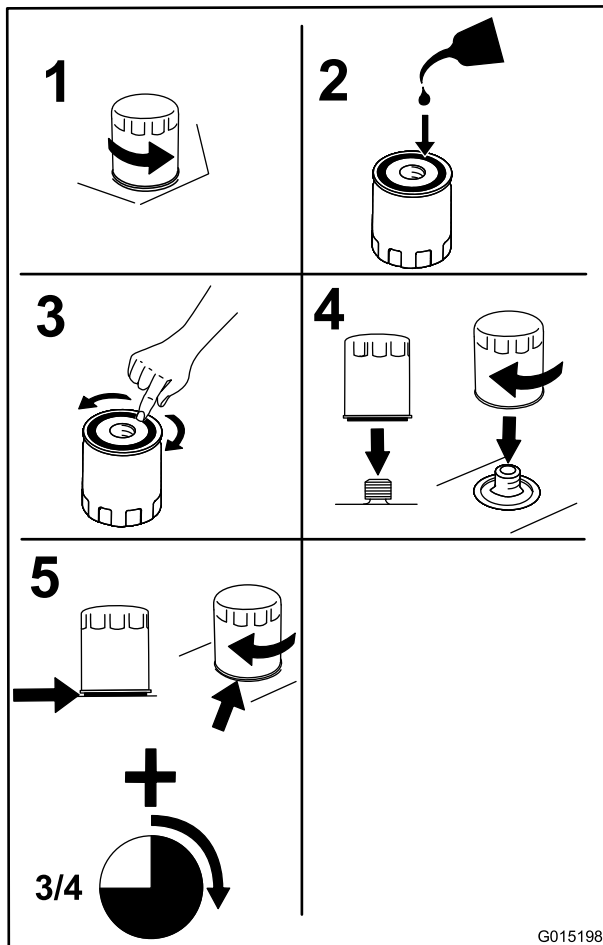

Figure 34
3. Change the engine oil filter as shown in Figure 34.